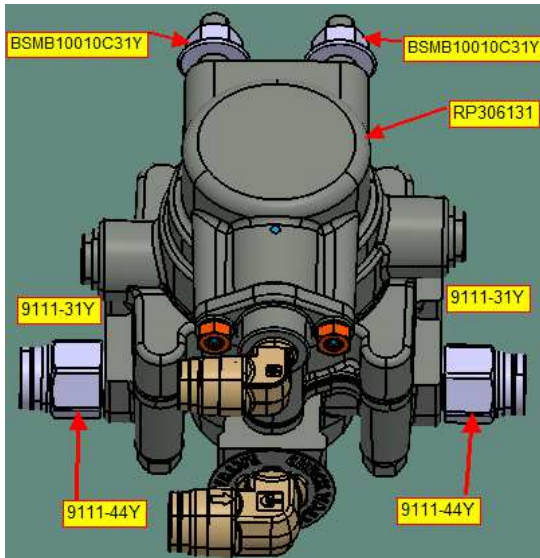

Figure-8
*Install necessary fittings on new IR valve. Part numbers and port locations are shown in Figure-8